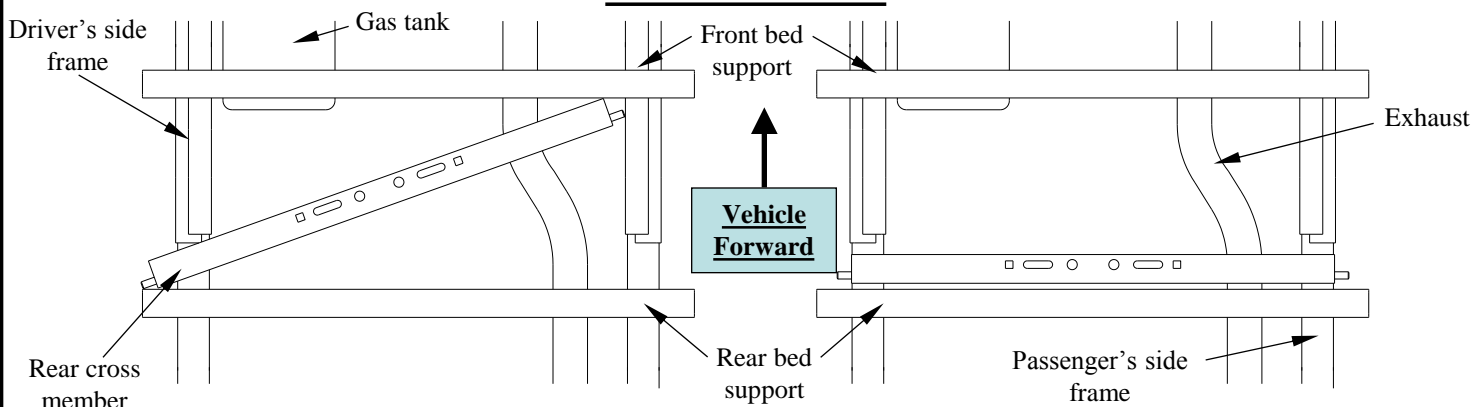

Figure 6b
- Slide the left end of the cross member to the left over the frame, then rotate the right side back and over the passenger's side frame. Push the rear cross member back against the rear bed support as shown in Figure 6b.